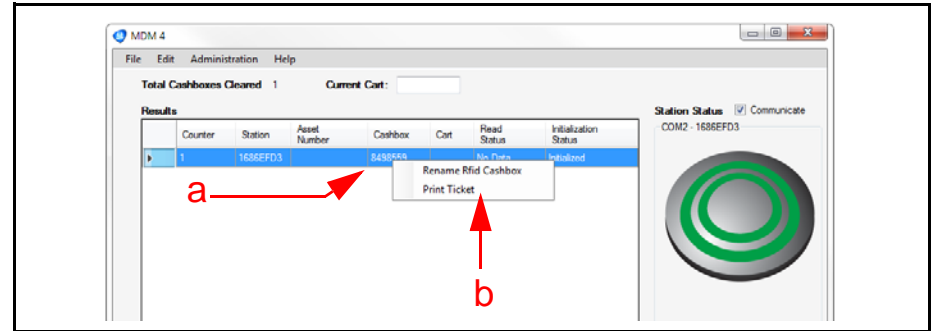

Figure 35 Selecting the Cashbox or Asset Number
1. In the Results window, right-click the Asset Number to be reprinted (Figure 35 a).
2. From the pop-up menu, click on 'Print Ticket' (Figure 35 b).
1. In the Results window, right-click on the Cash Box Number to be changed (Figure 35 a).
2. From the pop-up menu, click on 'Rename RFID Cashbox' (Figure 35 b).